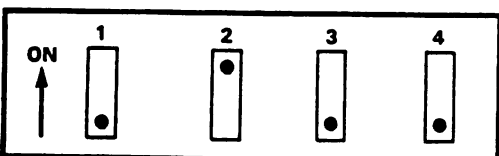

Figure D-5 Device Address /80
- c. To set the address at /80 -- Place the Switch 2 in the ON position; place all other switches in the OFF position. Refer to Figure D-5. An address of /80 indicates that there are three terminal processors. The third processor, which must be set at /80, controls Terminals 9-12.